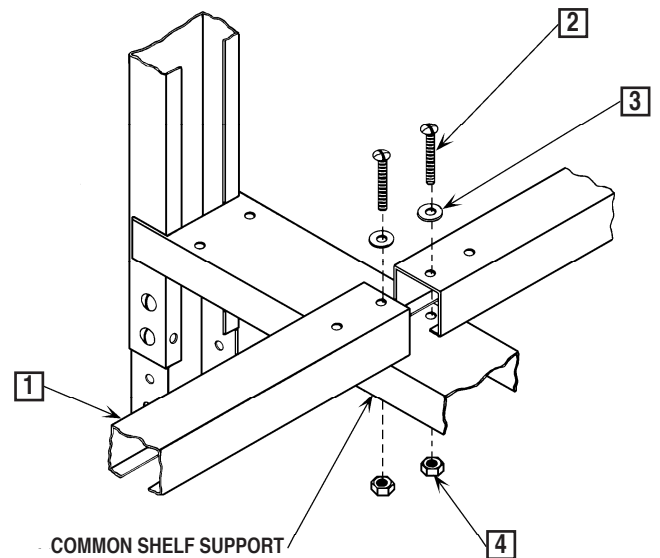

FIGURE 13
- The outer hole, in the footrest end, that is sitting on the common shelf support is to be aligned with the inner hole in the common shelf support. See Figure 13. (NOTE: The footrest can be positioned at any one of the four hole locations on the shelf supports). Fasten the footrest to the shelf supports with (2) screws, washers and nuts (Items 2, 3 & 4) as provided. Repeat procedure with the other footrest on the other side of the common shelf support.